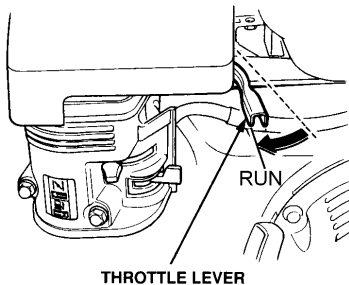

Figure 15. Throttle Lever (Run)
2. After the engine cools, turn the engine **ON/OFF** switch to the **OFF** position (See Figure 15).